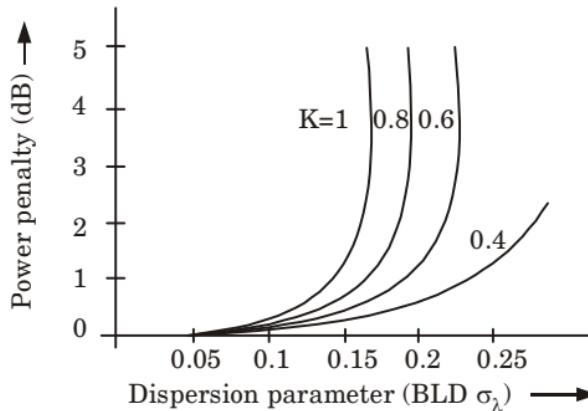

Fig. 5.13.3. MPN induced power penalty.
- Fig. 5.13.3 shows power penalty at BER of 10^{-9} as a function of normalized dispersion parameter (BLD) for different value of mode partition coefficient (K).